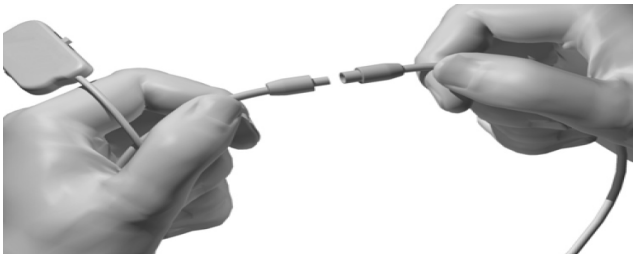

Figure 4: 1x8 OR Cables and Extension
1. Attach the OR Cable Extension to the OR Cable (Figure 4).